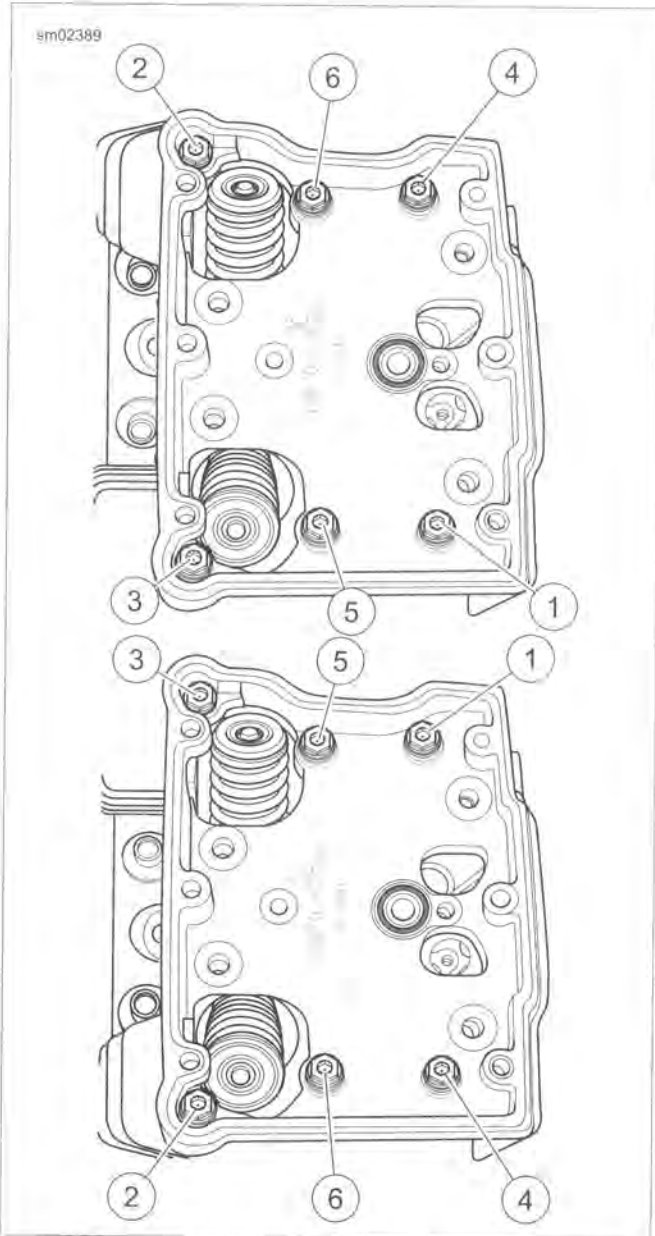

Figure 3-19. Rocker Housing Bolts Removal Sequence
1. See Figure 3-19. Following the sequence shown, remove the six rocker housing screws.